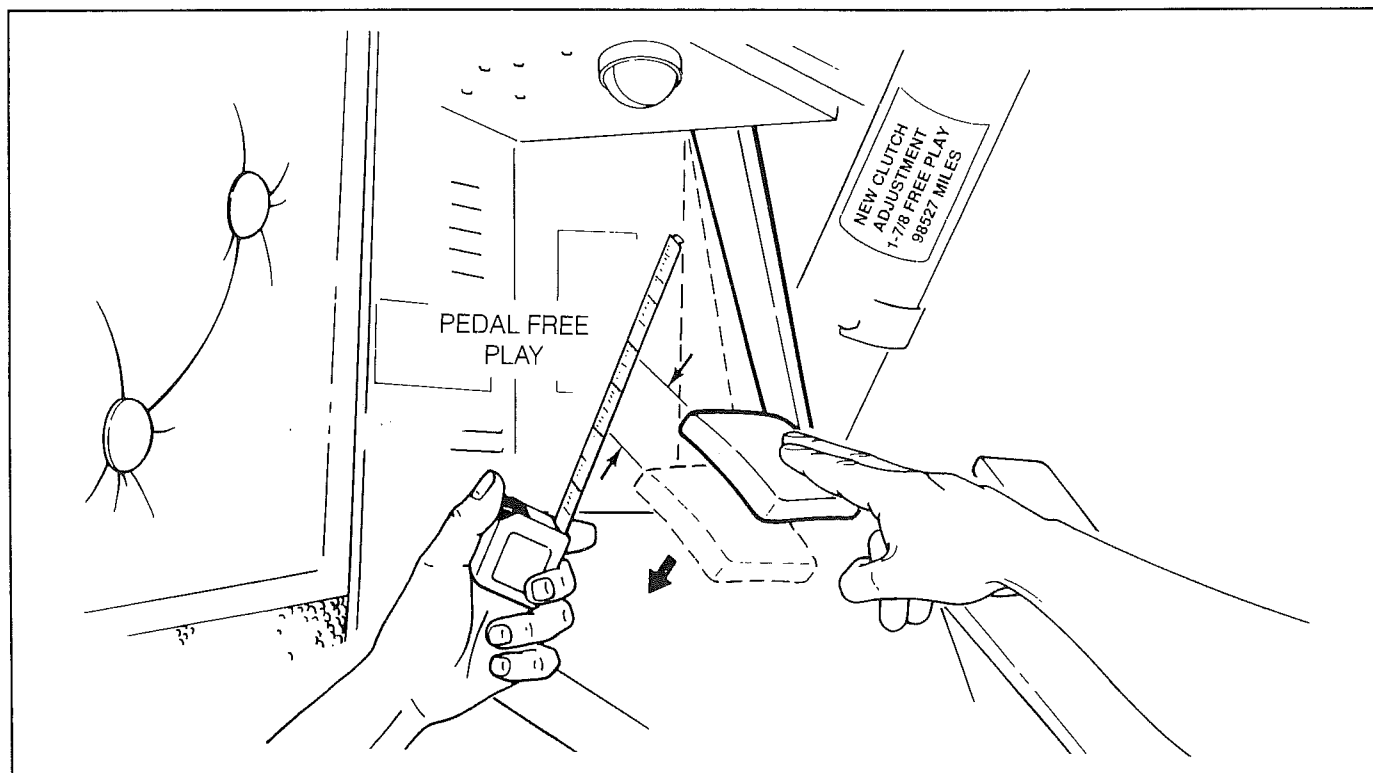

Figure 11-8. Checking and Recording Pedal Free Play
4. Measure and record the clutch pedal free play for use in future service adjustments (Fig. 11-8). Again, use the two finger method to measure free play.
1. Check and measure clutch pedal free play by using two fingers to depress the clutch pedal. Due to the lower clutch pedal efforts of the clutch, Valeo highly recommends the two finger method to check free play. The use of the palm or foot can cause an inaccurate reading (Fig. 11-8).